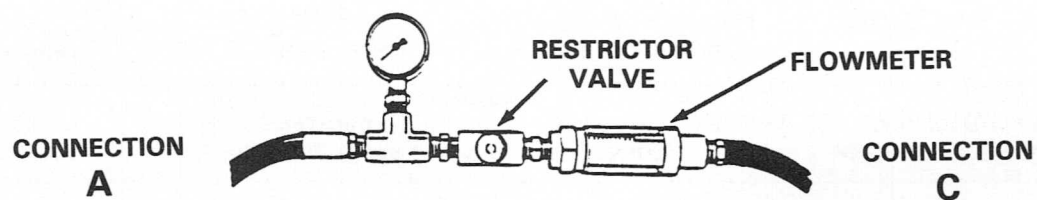

Figure 4 - Standard Flowmeter Connections -- Pump Test Hookup
3. For connection to standard flowmeter. This tester has two line configuration. This tester is shown in Figure 4.